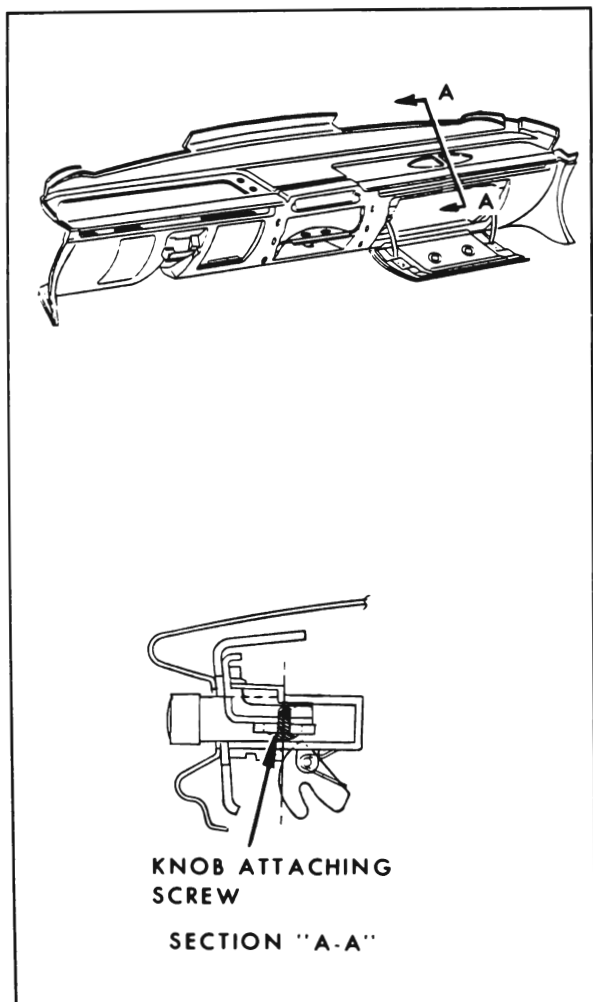

Figure 1-41—Instrument Panel Compartment Door Locking Knob Assembly
2. From underside of instrument panel remove knob assembly attaching screws and assembly. See Figure 1-41.